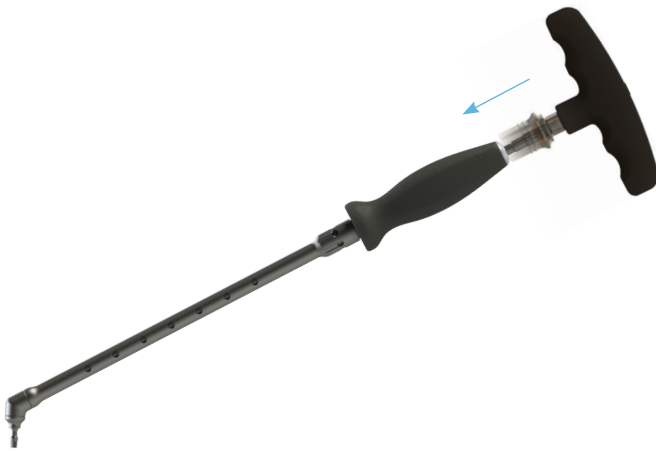

Figure 19
- Connect a ratcheting T-handle to either the straight driver (T20) or fixed angle driver (T20) (Figure 19).